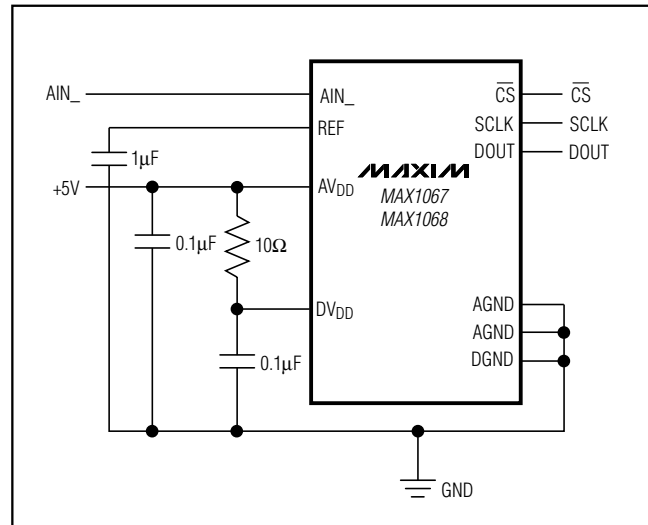

Figure 25. Powering AV_{DD} and DV_{DD} from a Single Supply
Use printed circuit (PC) boards with separate analog and digital ground planes. Do not use wire-wrap boards. Connect the two ground planes together at the MAX1067/MAX1068 AGND terminal. Isolate the digital supply from the analog with a low-value resistor (10Ω) or ferrite bead when the analog and digital supplies come from the same source (Figure 25).